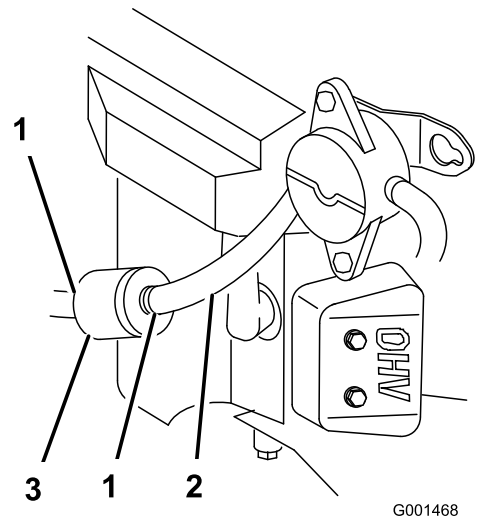

Figure 51
2. Clean around the fuel cap to prevent debris from getting into the fuel tank (Figure 51).
4. Squeeze the ends of the hose clamps together and slide them away from the filter (Figure 51).